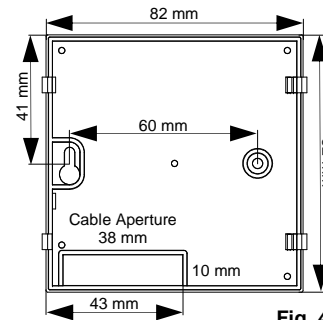

Fig. 4
2. Fissare la base del termostato alla parete tramite le due sedi per viti con interasse 60 mm (Fig. 4).
2. Fix the thermostat base plate to the wall through the two screw holes with distance between axes of 60 mm (Fig. 4).